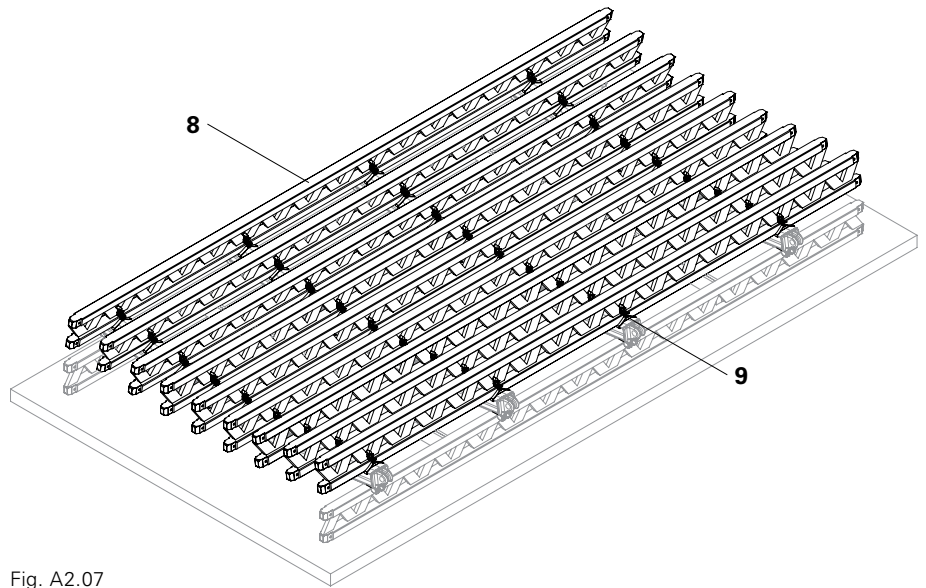

Fig. A2.07
1. Evenly position Lattice Girders GT 24 (8) on the articulated waler connections.
2. Fix Lattice Girders GT 24 (8) to the articulated waler connections using Hook Straps HB 24-100/120 (9). (Fig. A2.07)